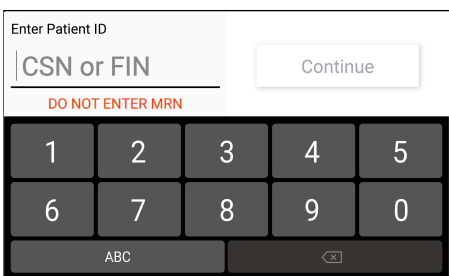

Figure 2. Patient ID entry screen
2. Enter the patient's unique identifier (ID) and press continue (Fig. 2). The patient ID refers to the patient's numeric or alphanumeric identifier associated with the patient-specific hospital encounter for that admission (i.e. CSN or FIN). This is not the patient's medical record number (MRN).